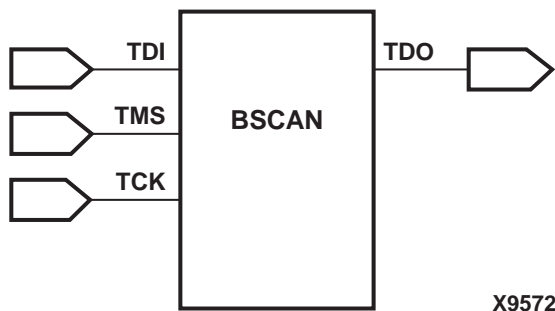

Figure 3-8 Boundary-Scan Spartan/XL Schematic Symbol
- For a schematic example, the library element is shown in Figure 3-8. The four JTAG pins (TMS, TCK, TDI, and TDO) are the only pins that must be connected to maintain the JTAG pins. The